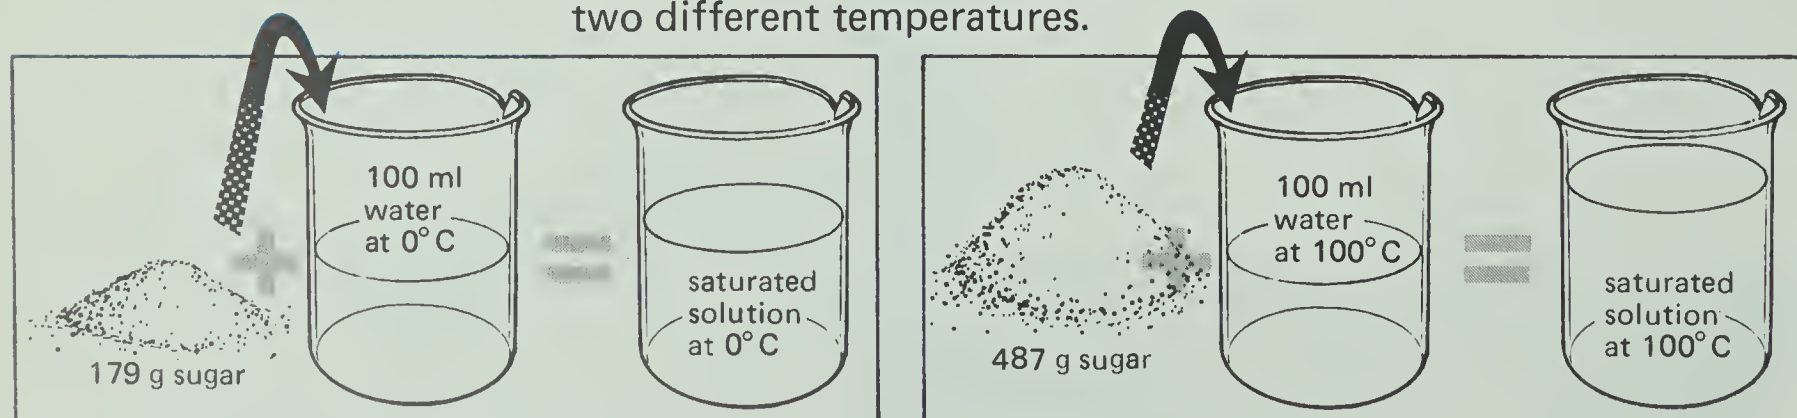

Figure 6-1
The hotter the water is, the more sugar can be dissolved. Look at Figure 6-1 below. It shows the solubility of sugar in water at two different temperatures.
- 6-2. Which contains more dissolved sugar — a cold saturated solution or a hot saturated solution? (See Figure 6-1, page 26.)